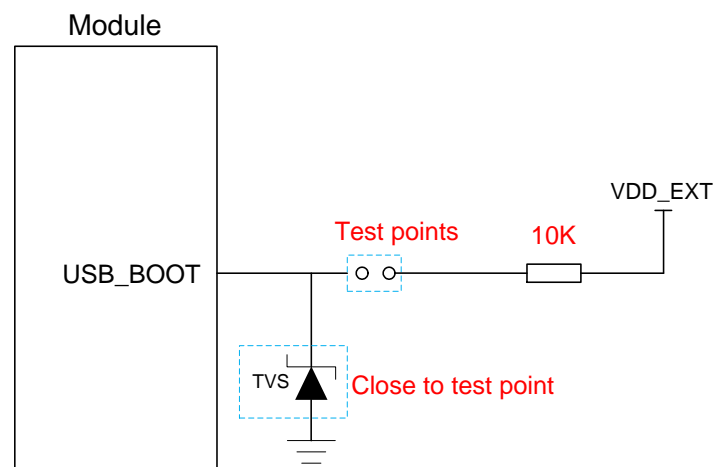

Figure 29: Reference Design of USB_BOOT Interface
3. When using MCU to control the module entering emergency download mode, follow the above timing sequence. Connecting the test points as shown in **Figure 29** can manually force the module to enter download mode.